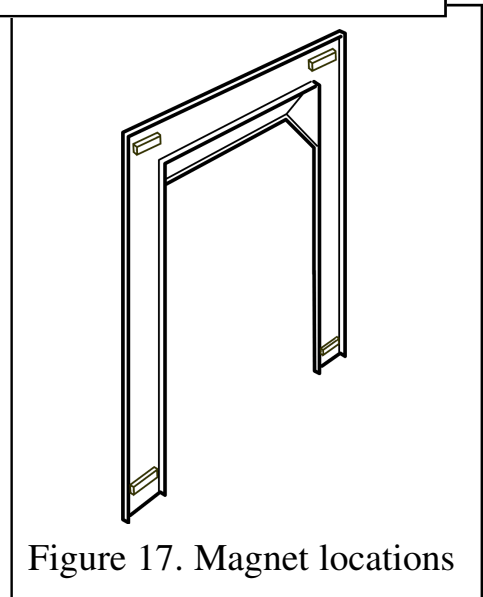

Figure 17. Magnet locations
1. Removing the fascia may have moved the magnets used to fix the fascia to the heater. The magnets should be located as in figure 17.
2. Removing the fascia may have moved the magnets used to fix the fascia to the heater. The magnets should be located as in figure 17.